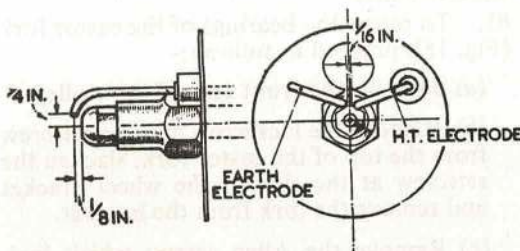

Fig. 16. ELECTRODE ADJUSTMENT
- (h) Adjust the position of the h.t. and earth electrodes (Fig. 16) so that the electrode gap is $\frac{1}{16}$ in.; the vertical distance between the centre of the electrode gap and the jet orifice is $\frac{1}{4}$ in.; and the horizontal distance between the centre of the electrode gap and the jet is $\frac{1}{8}$ in.